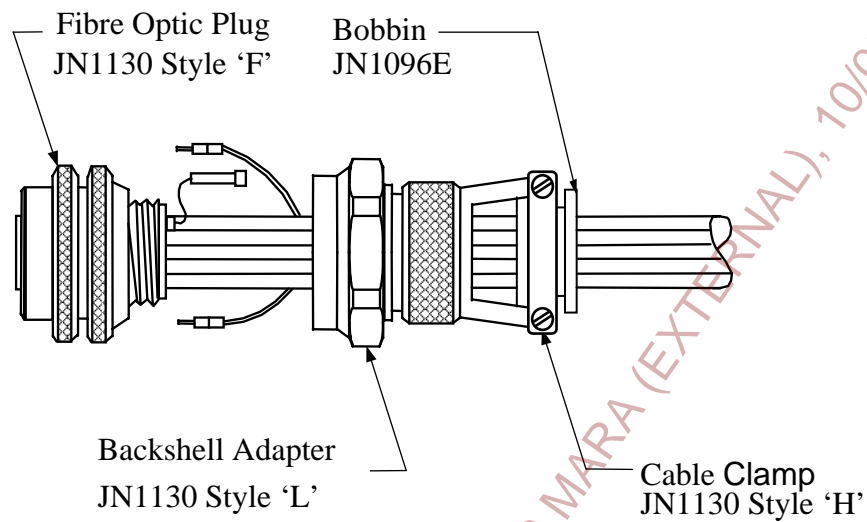

Figure 18
- 4.2.5 Place the two clamp bars over the bobbin, and refit the screws with J93.201 thread locking compound as shown in Figure 18.